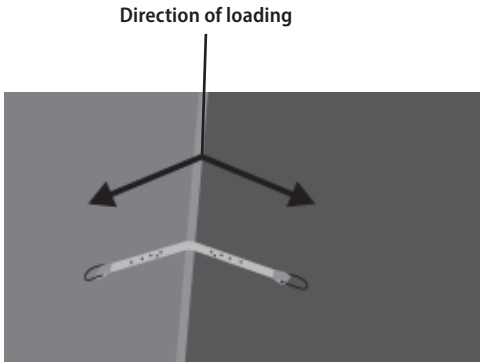

Fig. 2
- Press down the anchor legs over the surface and alternately insert the provided nails. Refer to fig.2.